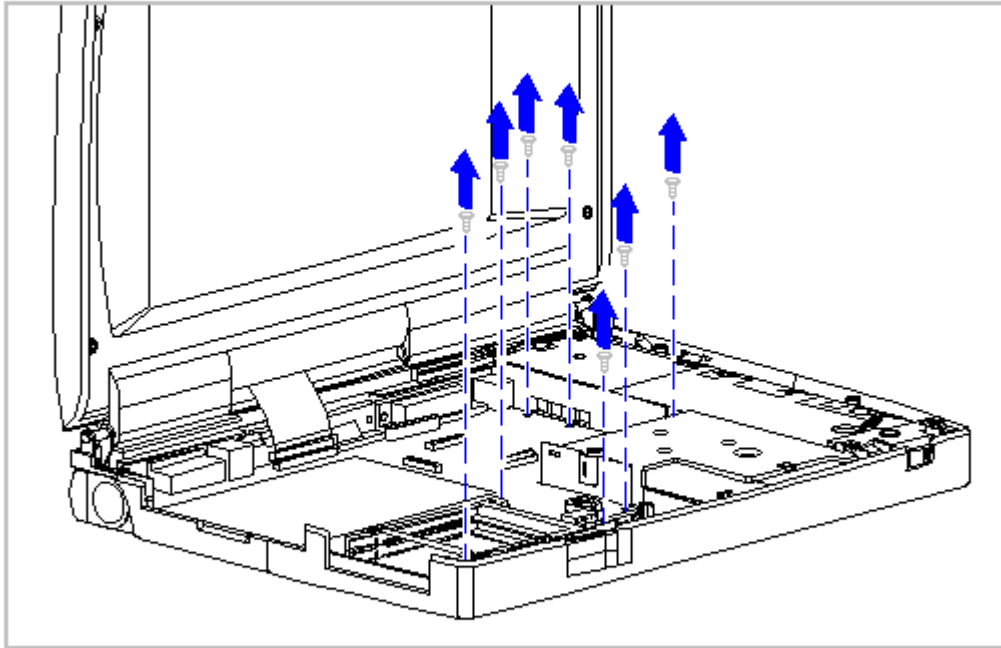

Figure 3-53. Removing the Five System Board and the Two Battery Contact Screws (Models 400 and 410)
15. For Models 400 and 410, using a Torx T8 or slotted driver, remove the five screws from the system board and the two screws from the battery contact (Figure 3-53).